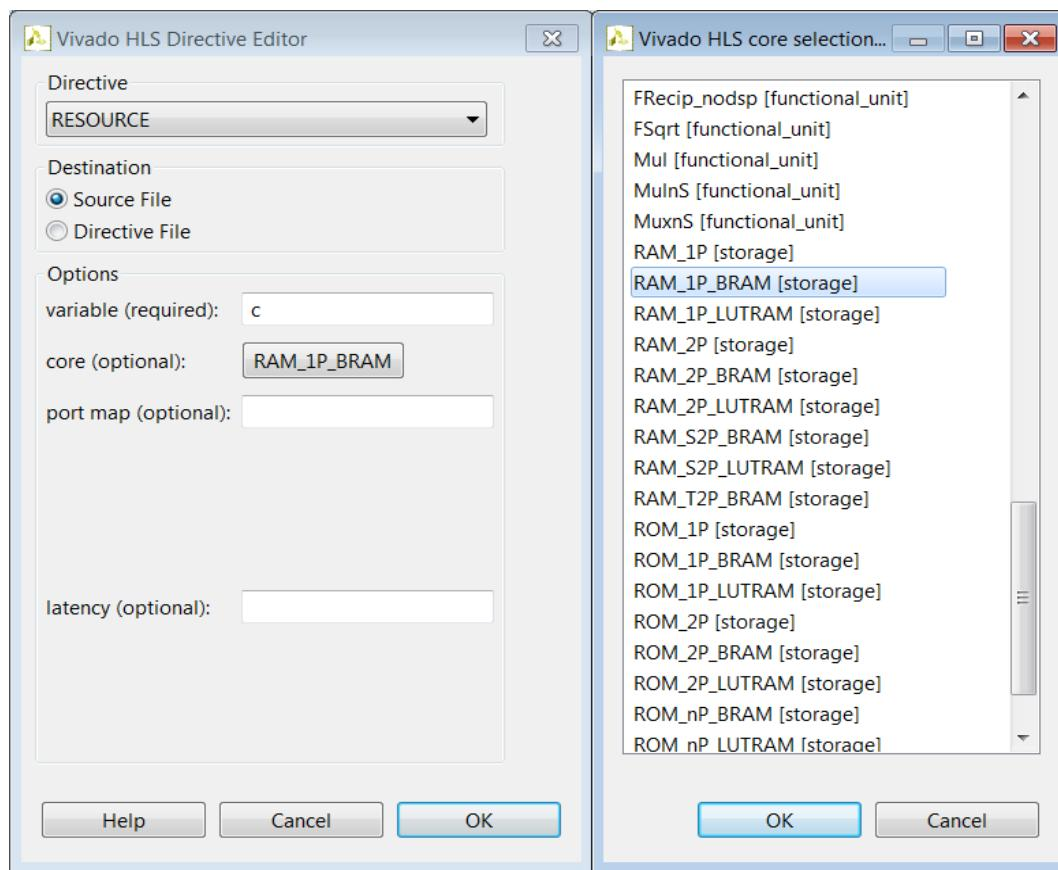

Figure 2-22: Adding a Resource Directive
The Directives tab, shown on the right side of Figure 2-22, lists all of the objects in the design that can be optimized. In the Directive tab, you can add optimization directives to the design. You can view the Directives tab only when the source code is open in the Information pane.
- c. Select **RAM_1P_BRAM**, as shown in Figure 2-22.